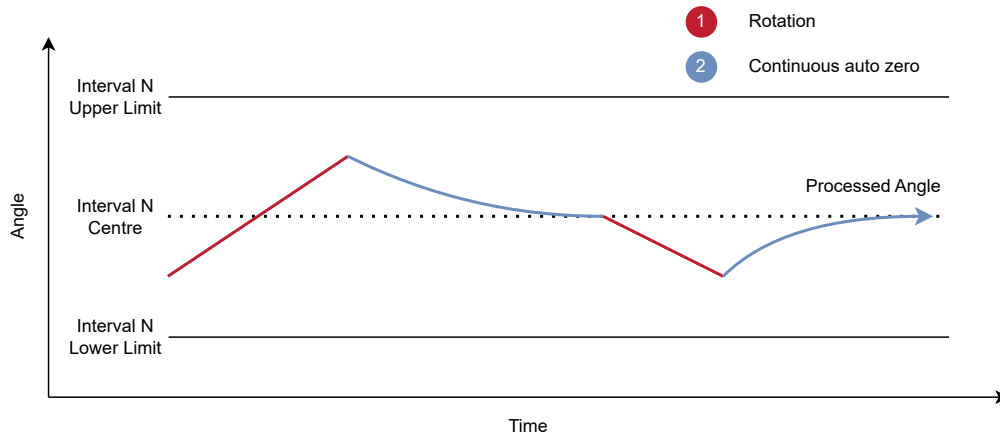

Figure 4.10: Continuous Auto-zero Behaviour
- > **Continuous:** The auto-zero filter will cause the Processed Angle to move continuously towards the centre of the current interval. It is recommended to use an auto-zero beta value of 6 or higher to allow the Processed Angle to move between intervals during slower rotations. This mode is recommended for devices without a mechanical ratchet. This behaviour can be viewed in Figure 4.10.